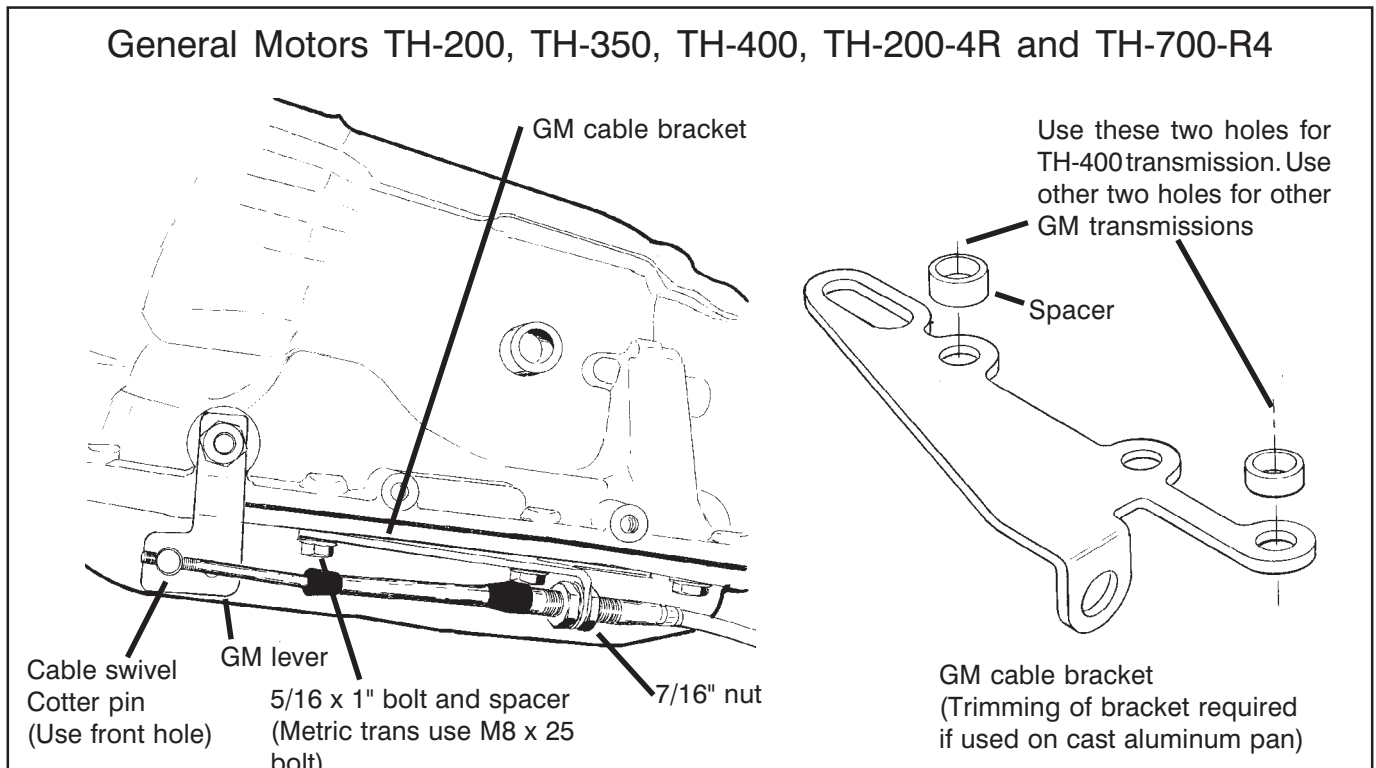

Figure 6
STEP 10. If you have not already done so, remove the stock selector lever nut and selector lever from the transmission. Discard stock lever and stock shifter linkage. Install **B&M** selector lever in position using stock selector lever nut, (See **figure 6**). Torque nut to 23 lb. ft. The lever should move smoothly from front to rear with a positive click in each gear position.
STEP 11. Remove two transmission oil pan bolts from the middle of the left side of the oil pan. Install cable bracket in position, (See **figure 6**.) The bracket must be installed with two spacers between the pan and bracket. (If your transmission is equipped with a cast aluminum oil pan, these spacers should be omitted. With a TH-400 with a cast aluminum oil pan the cable bracket may have to be modified.) Install the two 5/16-18 x 1.00" bolts (Metric transmissions use the two 8mm x 25mm bolts) supplied and tighten 12-13 ft. lbs. Do not overtighten as this can damage pan gasket.